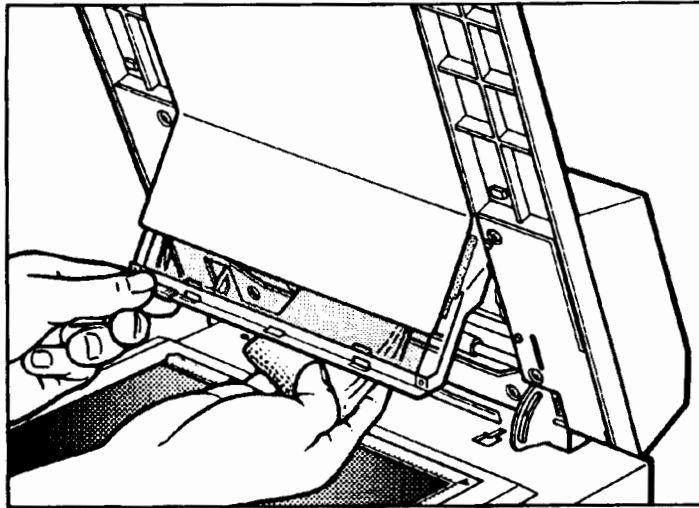

Figure D-19. Cleaning the Mylar Guide
5. Clean the inside surface of the Mylar guide taking care not to let it come out onto the white plastic sheet. See figure D-19.